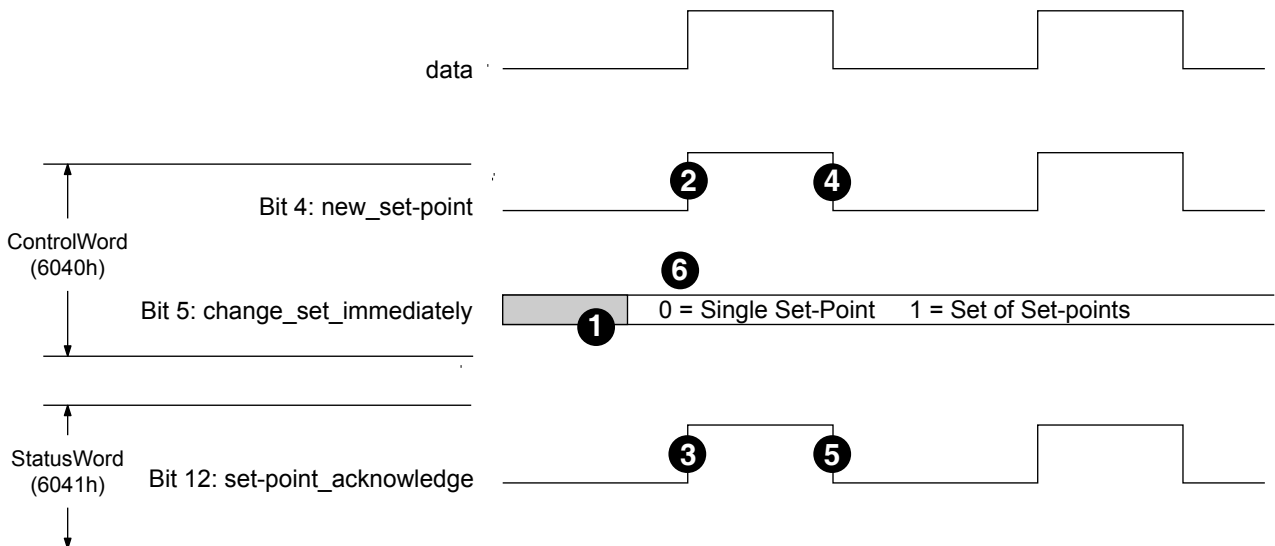

Figure 6.3: Set-point transmission from host (see table 6:14 for states)
Figure 6.3, Figure 6.4 and Figure 6.5 illustrate the difference between the "set of set-points" mode and the "single set-point" mode. The initial status of the bit `change_set_immediately` in the controlword determines which mode is used. Trapezoidal moves are used as this is the only `motion_profile_type` the MDrivePlus CANopen supports.
If the bit `change_set_immediately` is "0" (shaded area in Figure 6.3) a single set-point is expected by the drive (1). After data is applied to the drive, a host signals that the data is valid by changing the bit `new_setpoint` to "1" in the controlword (2). The drive responds with `set-point_acknowledge` set to "1" in the statusword (3) after it recognized and buffered the new valid data. Now the host may release `new_setpoint` (4) and afterwards the drive signals with `set-point_acknowledge` equal "0" its ability to accept new data again (5). In Figure 6.4 this mechanism results in a velocity of zero after ramping down in order to reach a `target_position X1` at  $T_1$ . After signalling to the host, that the set-point is reached like described above, the next `target_position X2` is processed at  $T_2$  and reached at  $T_3$ .
With `change_set_immediately` set to "1" (6), symbolized by the clear area in Figure 6.3, the host advises the drive to apply a new set-point immediately after reaching the last one. The relative timing of the other signals is unchanged. This behavior causes the drive to already process the next set-point `X2` and to keep its velocity when it reaches the `target_position X1` at  $T_1$ . Then drive moves immediately to the already calculated next `target_position X2`.